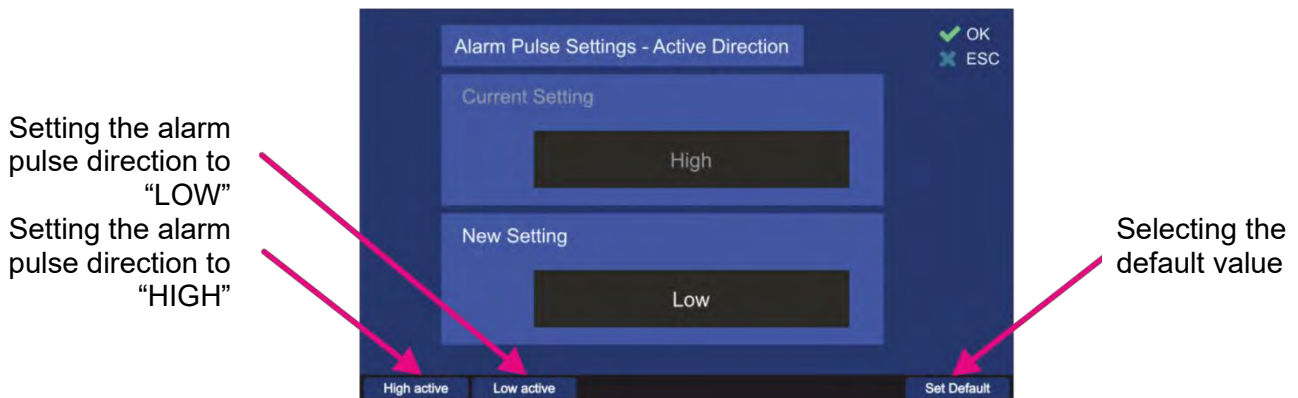

Figure 90. Active direction dialog
- o By pressing the hotkey “Edit Value”, the dialog for changing the active direction of the alarm output will be opened. The handling of this dialog is shown in Figure 90.